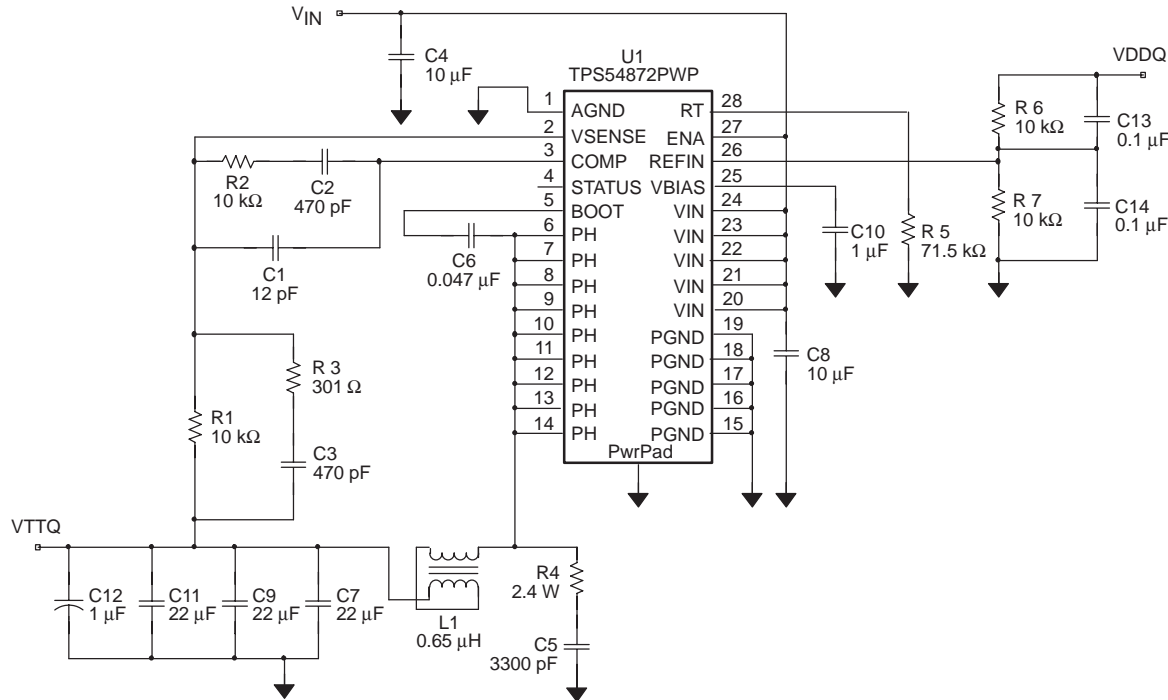

Figure 7. Application Circuit
(1) Specified by design
(2) Static resistive loads only
(3) Specified by the circuit used in Figure 7
(4) Matched MOSFETs low-side $r_{\text{DS(on)}}$ production tested, high-side $r_{\text{DF(on)}}$ production tested.
Figure 7 shows the schematic diagram for a typical TPS54872 application. The TPS54872 (U1) can provide up to 8 A of output current at a nominal output voltage of